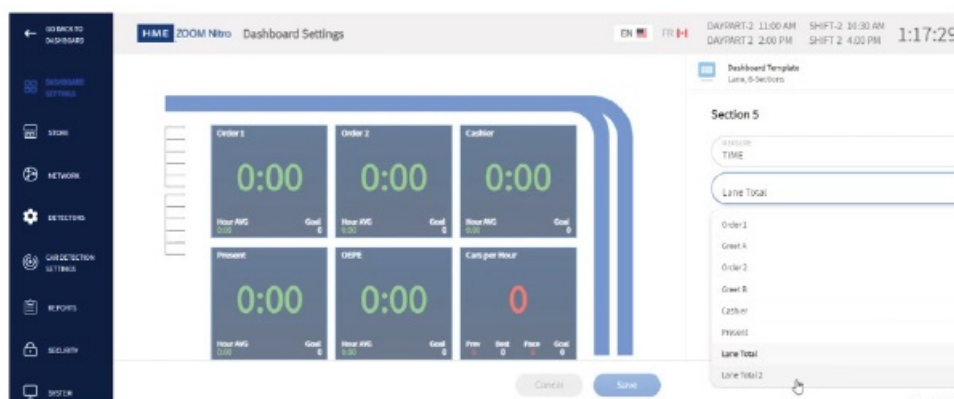

Fig. 5.9
- Under DASHBOARD SETTINGS, click on the dash- board pane you wish to change, and under the Dashboard Template, choose the option from the drop-down menu of the second field “Metric.” In this example, it’s Lane Total 2. See Fig. 5.9.